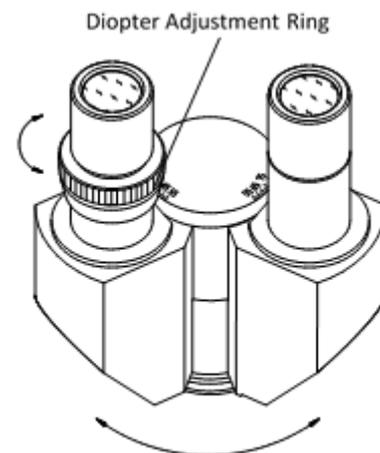

Figure 4
**Diopter Adjustment** Proper correction for individual vision is accomplished via the diopter adjustment located at the left eyepiece, see figure 4. Using the 40X magnification objective, bring an image into focus with your right eye only. Once the
Proper Interpupillary distance, or the distance between eyepieces, is crucial to the comfort of the user. Adjusting the Interpupillary distance is accomplished through a “folding” action of the optical head, at figure 4, allowing for quick and easy adjustment.